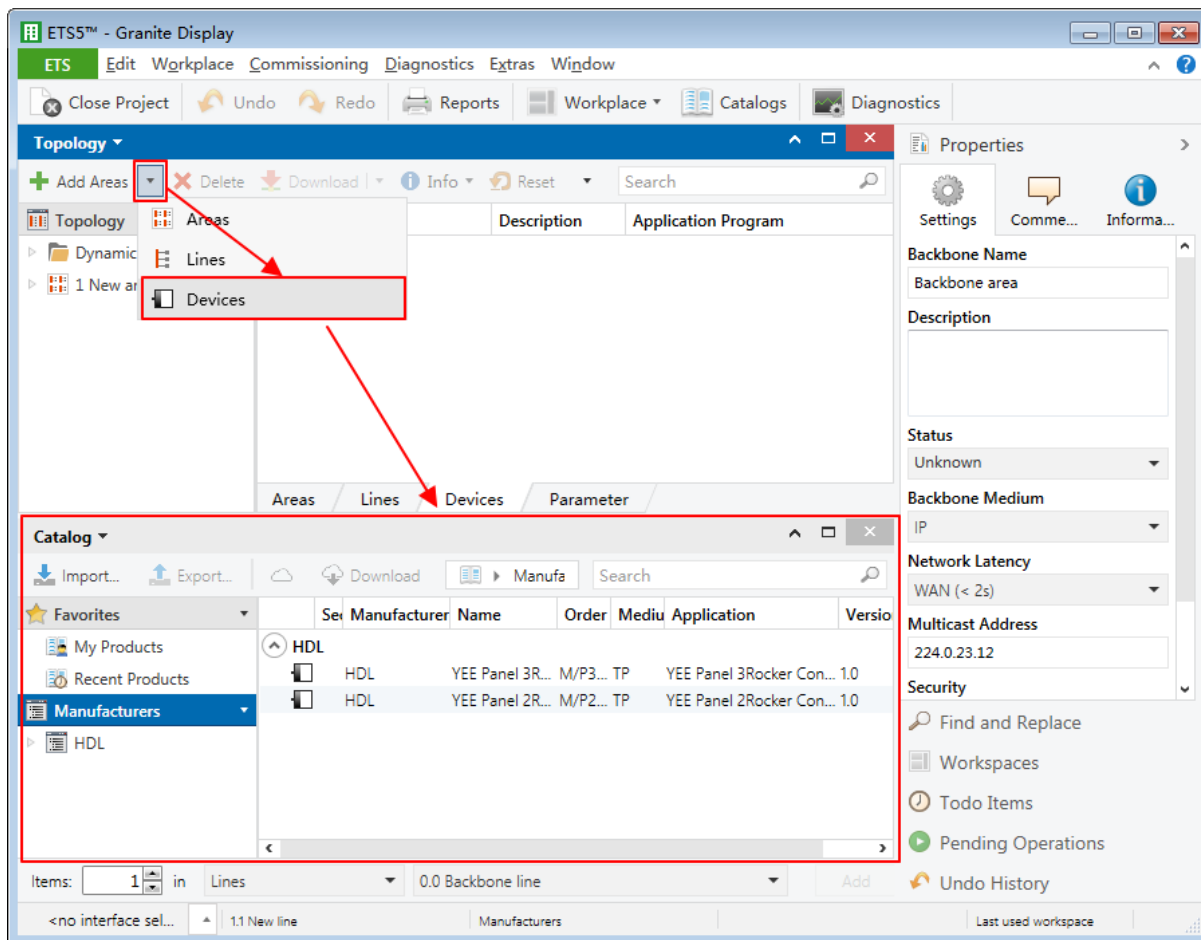

Figure 1-4 Open catalog page
- ② Figure 1-4 shows “Topology” page, click the arrow beside “Add Areas” and select “Devices”, and the catalog page will show up below.